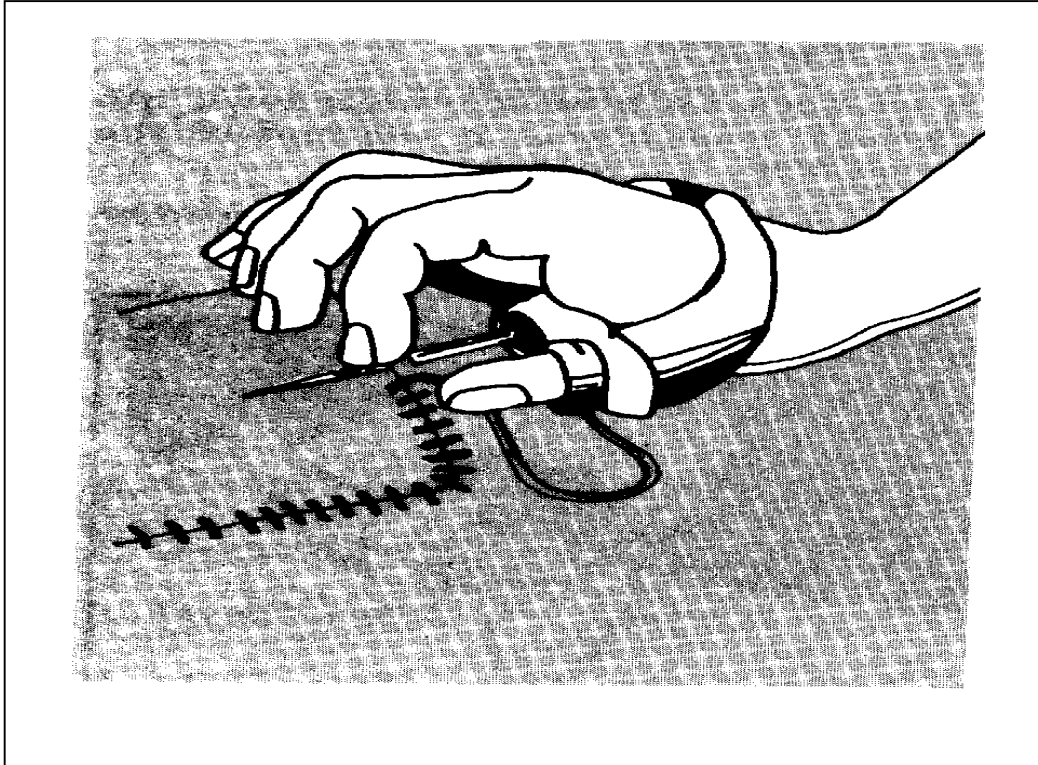

Figure 7-9. Felling Ssitch on canvas
c. Felling Stitch. The felling stitch (Figure 7-9) is also called the overhand stitch in canvas repair. It is used to attach a patch by hand. To make a row of felling stitches--
(1) Push the sailmaker's needle through the canvas, and pull the thread through the canvas to the knot.
(2) Backstitch to tack the beginning of the row.
(3) Push the needle down vertically into the canvas at a point that is just beyond the folded edge of the patch.
- (4) Push the needle back up through the canvas and the patch at a diagonal angle.
- (5) Continue to take first a vertical stitch on top and then a diagonal stitch underneath until the repair is complete.
- (6) Backstitch to tack the row of stitches at the end.
- (7) Make a knot in the thread close to the canvas, and cut off the remaining thread.